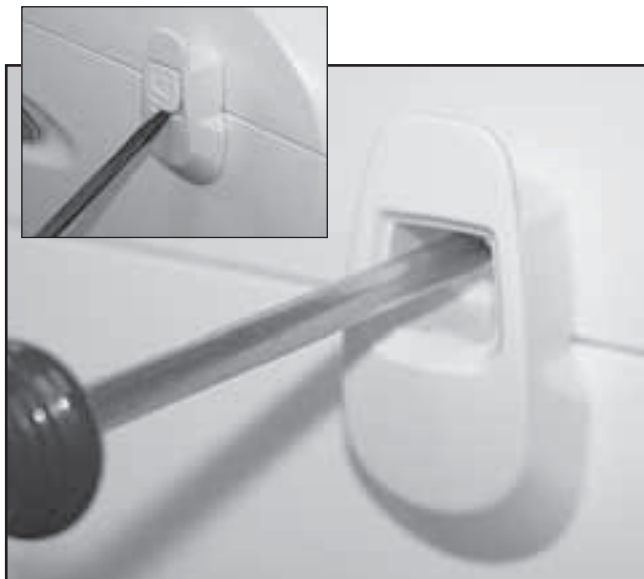

FIGURE 6.1
1. Remove Patient Interrupt Switch Hook Screw Cover with a Flat Blade Screwdriver. See inset at Figure 6.1.
2. Remove Patient Interrupt Switch Hook Screw using a #1 Phillips Screwdriver. See Figure 6.1.